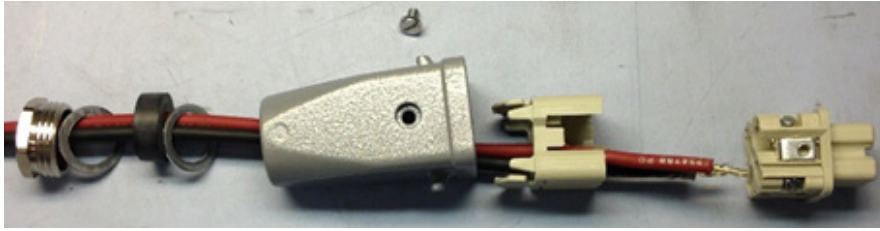

Figure 14 Thread Wires Through Assembly
7. Thread the +Vin and -Vin wires through the cable gland, housing, and insert assemblies (Figure 14).